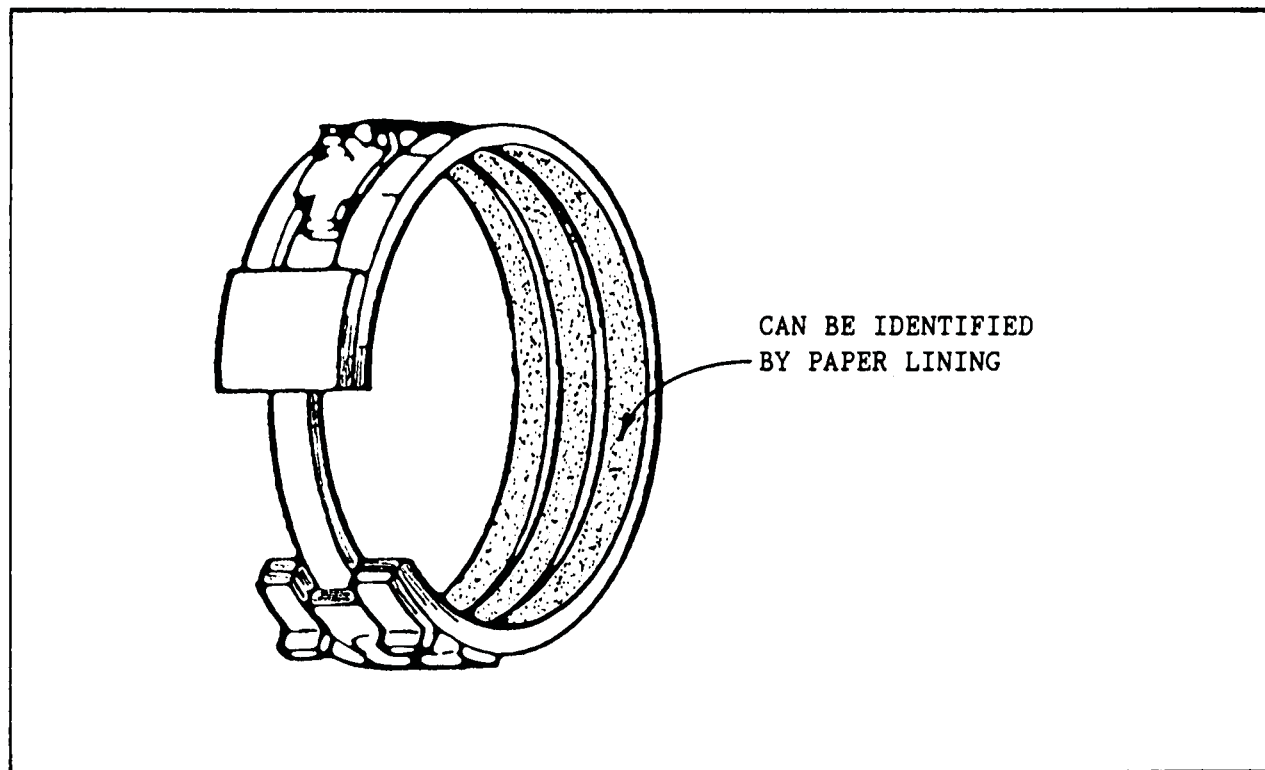

Figure 4
- (1) REVERSE BAND ASSEMBLY - The lining on the reverse band has once again been changed, and can be identified by the "Paper" lining on the band itself (See Figure 4).